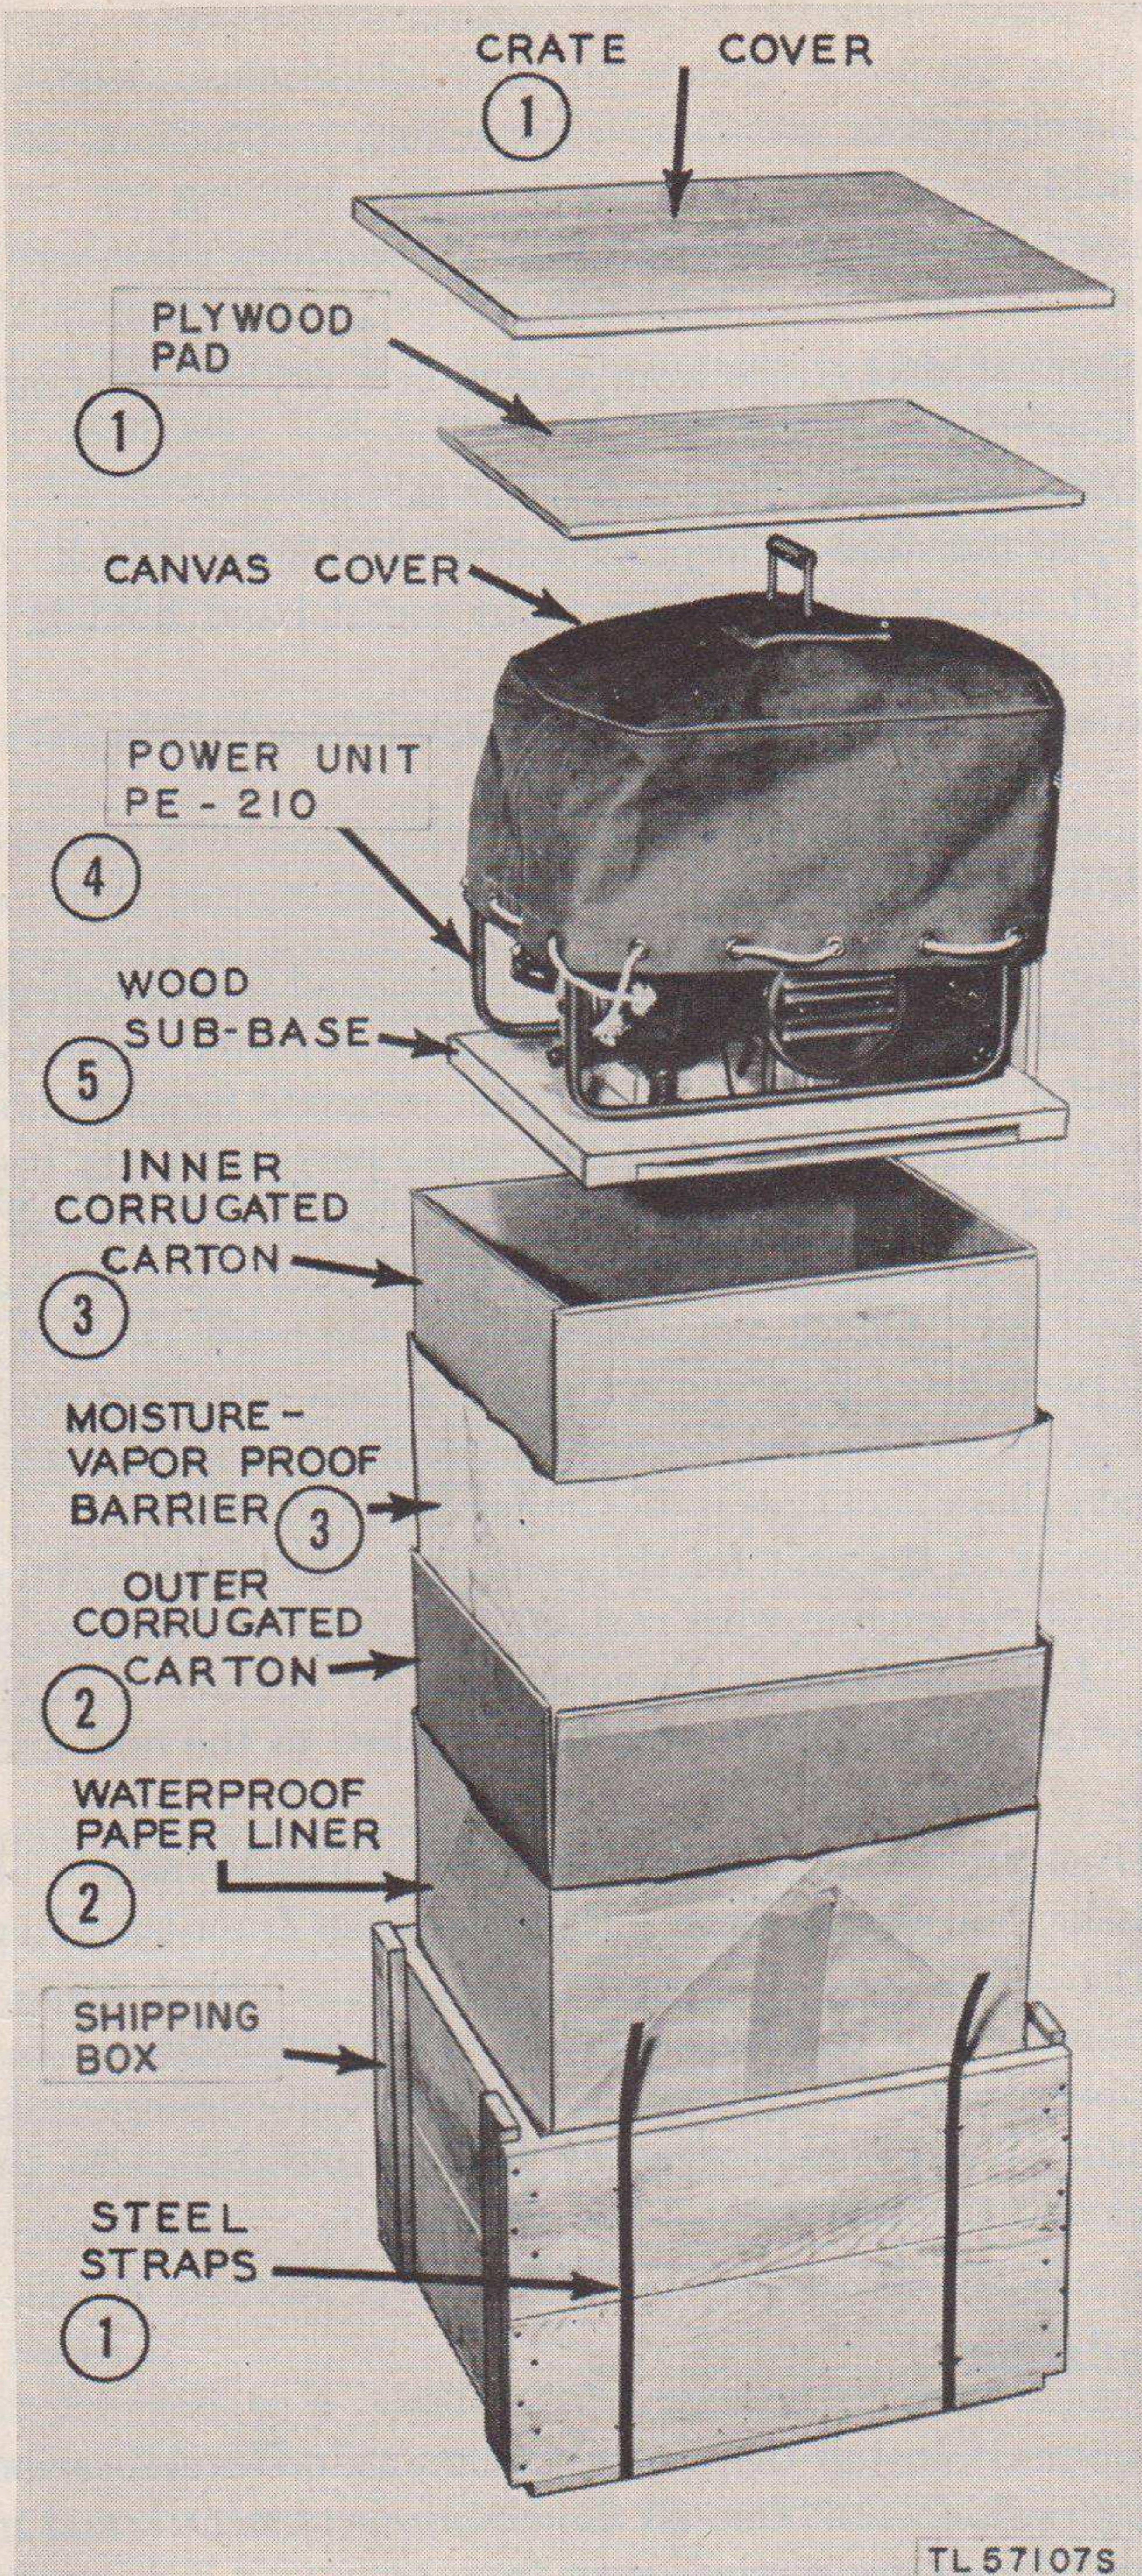

Figure 6. Unpacking sequence.
### 9. Uncrating and Unpacking (fig. 6)
b. Remove Power Unit PE-210 from its shipping container as follows (fig. 6):
- (1) Remove steel straps from around box, pry off cover, and remove inner plywood pad.
- (2) Open waterproof liner and outer carton.
- (3) Open moisture-vaporproof barrier and inner carton.
- (4) Lift out of shipping box. Cut metal band holding generator to sub-base.
- (5) Remove nuts from bolts holding unit to sub-base.